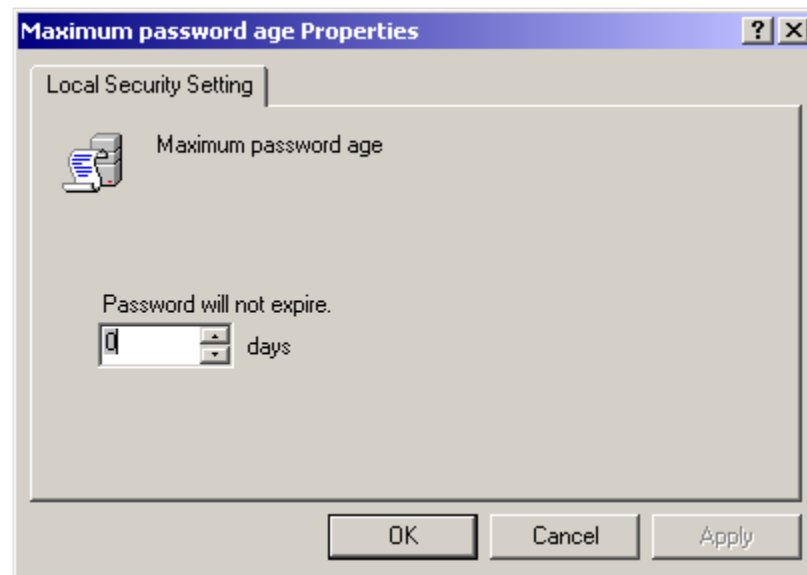

FIGURE 129. Changed Maximum password age
13. Change this value to 0 days as in Figure 129.